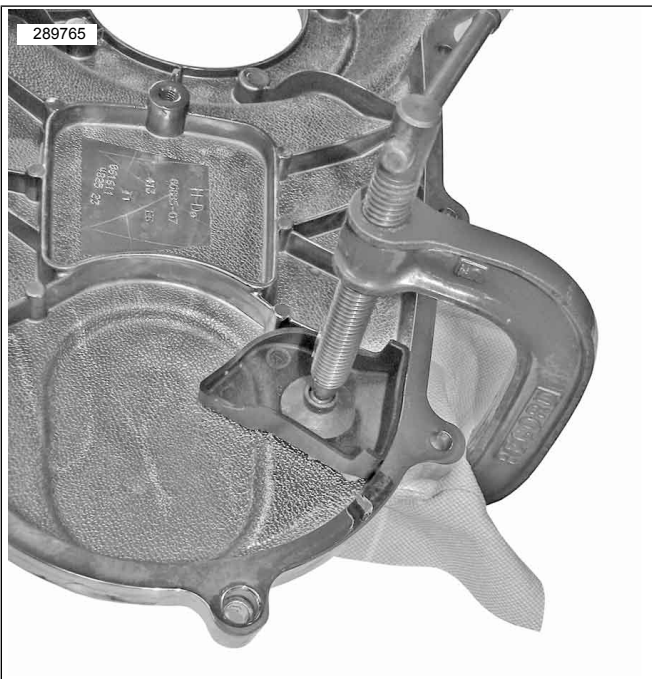

Figure 5. Clamp Components Together
7. See Figure 5. Protect outside surface of primary cover to avoid damage.